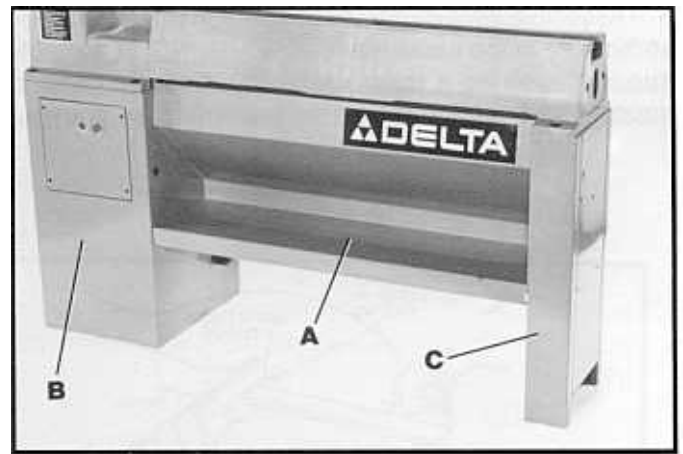
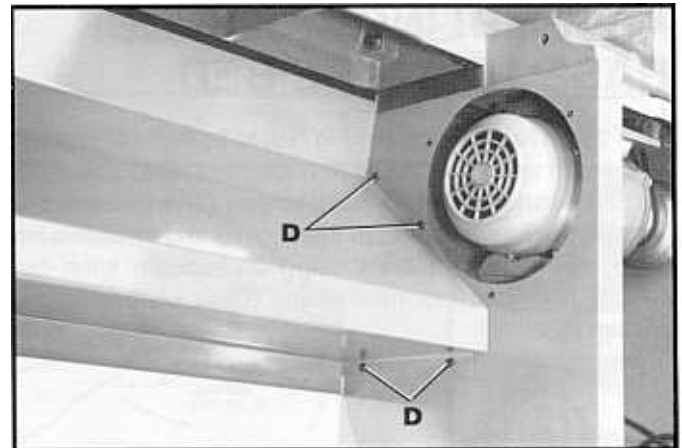

Fig. 13
Fig. 14
1. Position shelf (A) Fig. 13, between the headstock base (B) and tailstock base (C) and fasten in place using the eight 12mm long screws, four of which are shown at (D) Fig. 14.